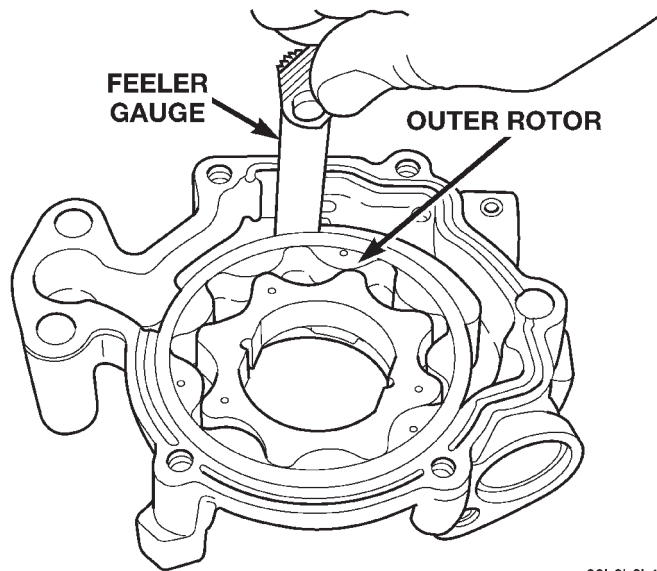

Fig. 121 Measuring Outer Rotor Clearance in Housing
(6) Slide outer rotor into the body of the oil pump. Press the outer rotor to one side of the oil pump body and measure clearance between the outer rotor and the body (Fig. 121). If the measurement is 0.47mm (0.0186 in.) or more the oil pump assembly must be replaced.